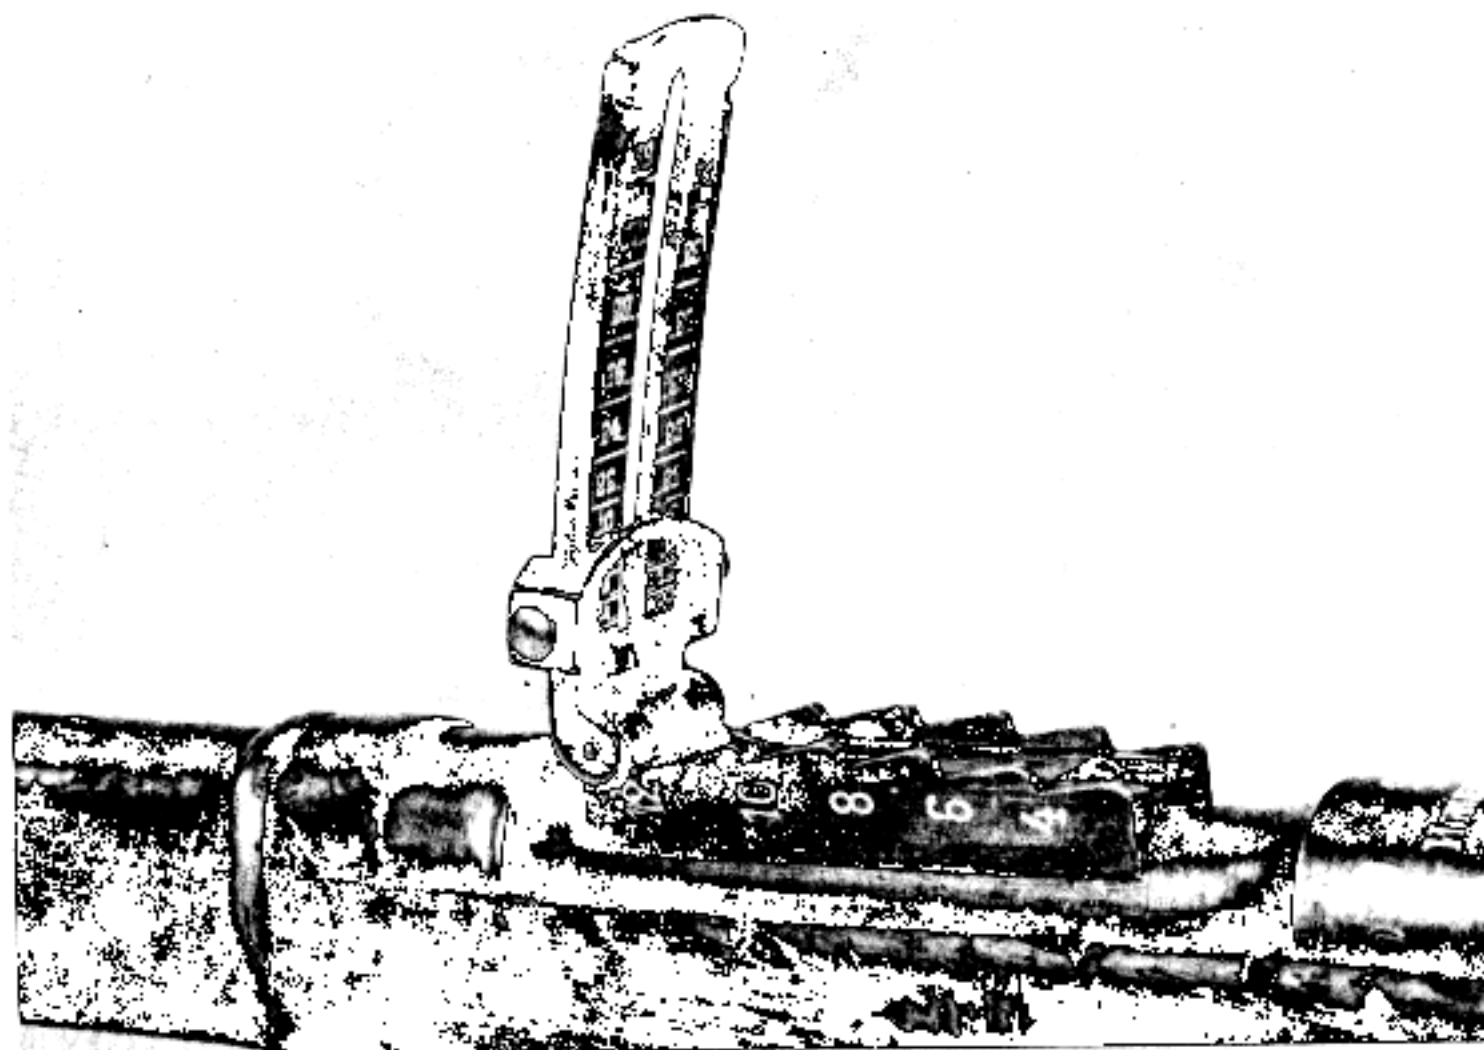

FIGURE 2. REAR SIGHT FOR RIFLE M1891.
a. This rifle has a notched-ramp leaf-type rear sight (fig. 2) which has no provision for windage. The sight is graduated from 400 to 9,200 arshins (312 to 1,423 yards).